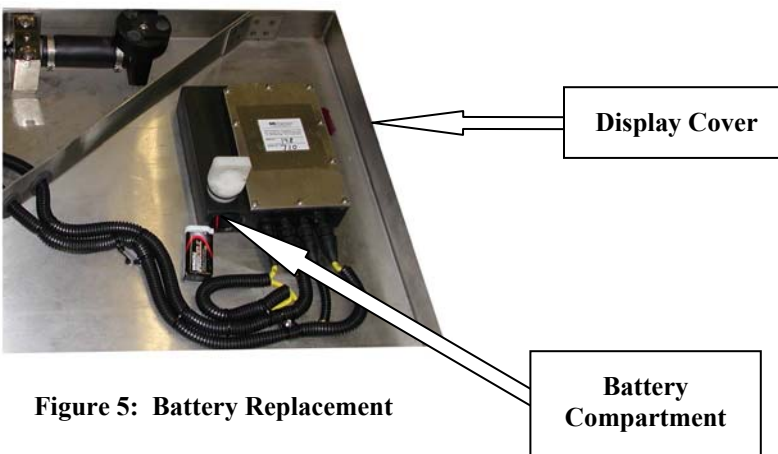

Figure 5: Battery Replacement
STEP 1: Unpack the Marine Scale Platform (1) and check parts against the PACKING CHECKLIST. If there are any missing or damaged parts, call the Service Hotline at: 1-800-654-6360.
STEP 2: Place the Platform upside-down on the floor and remove the plug on the Battery Compartment. Install the 9-volt battery according to (Figure 5) Battery Replacement instructions.